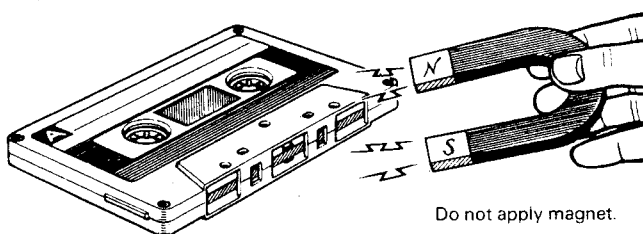

Fig. 8
**To store cassette tape** – The cassette shells and tape are liable to be damaged by heat. Do not store cassette tapes in a place exposed to direct sunlight. To protect valuable recordings, do not place cassette tapes in a magnetic field and do not place a magnet near the cassette tapes (Fig. 8).